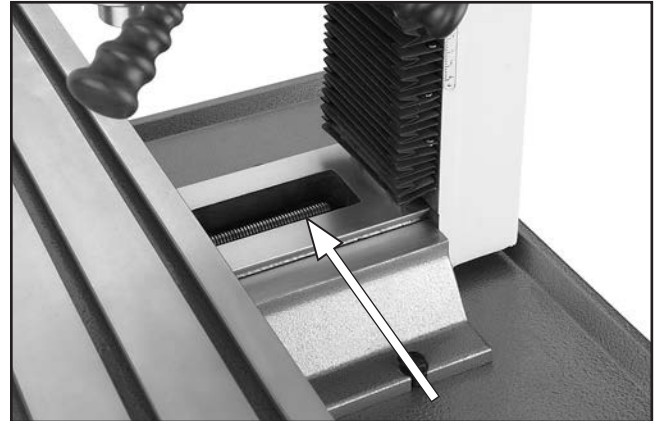

Figure 48. Cross travel leadscrew location.
6. Lift or remove the rubber way cover, then use mineral spirits and a brush to clean as much of the existing grease and debris as possible off of the cross travel leadscrew shown in **Figure 48**. Allow leadscrew to dry.